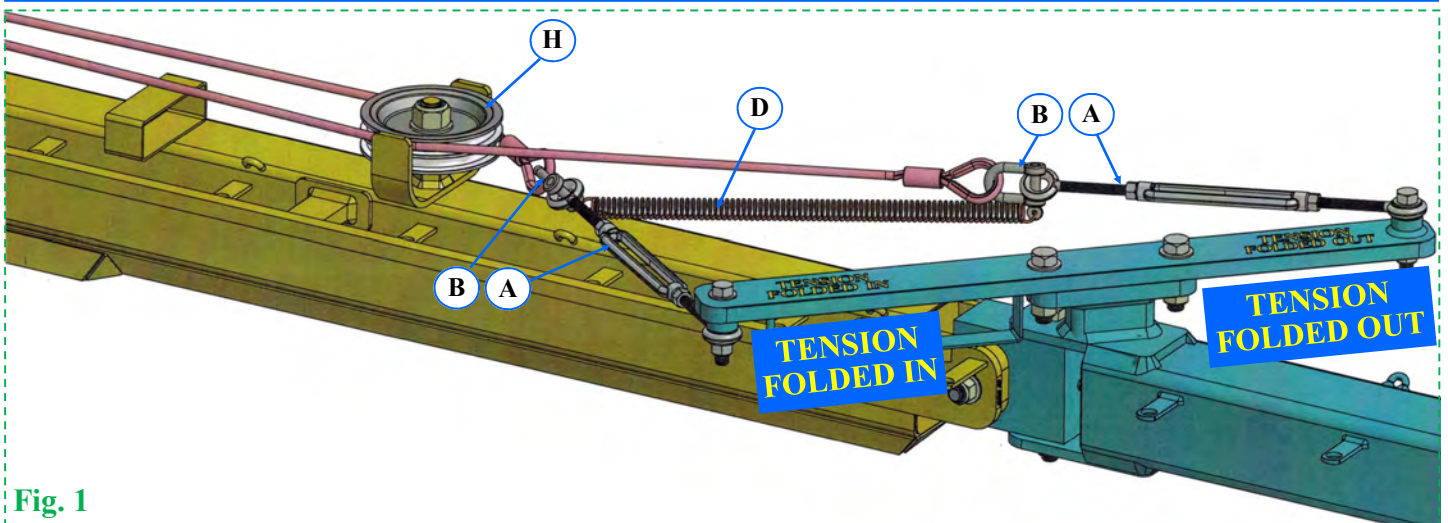

Fig. 1
- 2) Loosen both adjustment turnbuckles so they are fully open (Fig. 1)
- 3) Loosen the wire rope clamps on the outside drum (Fig.2) and adjust the rope so the **Folded Out** side is tight and all the slack is on the **Folded In** side back at the adjustment turnbuckles (Fig.1)